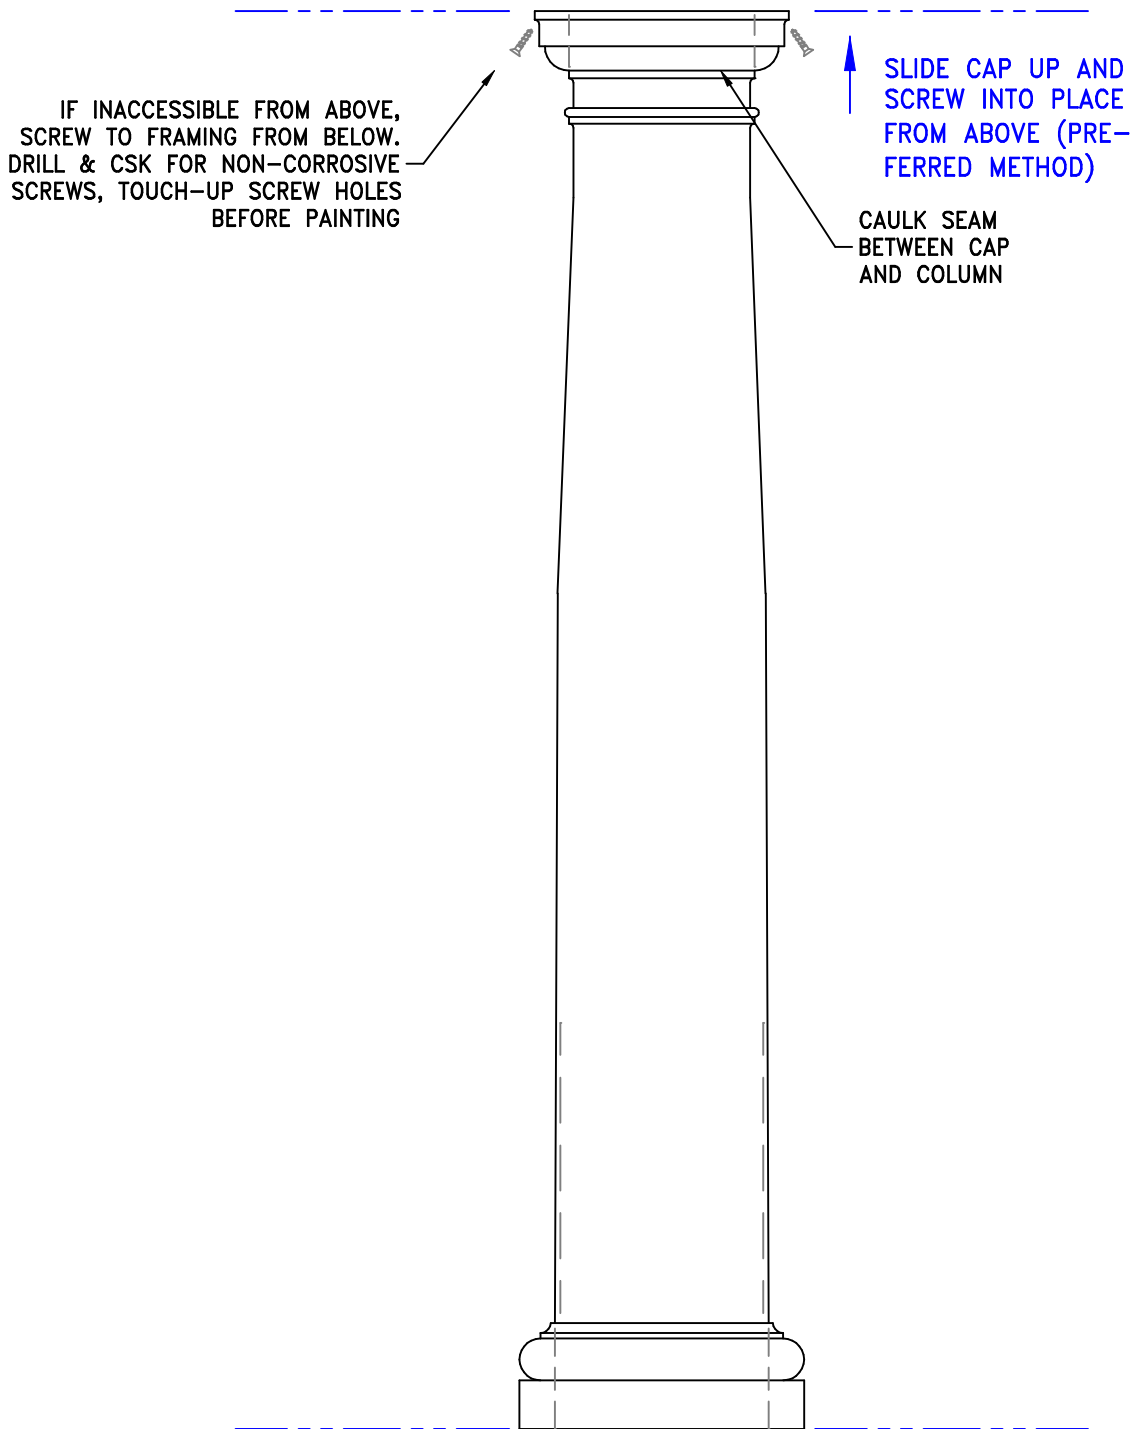

FIGURE 10
13. AFTER SQUARING, SCREW CAP INTO PLACE FROM ABOVE (PREFERRED INSTALLATION METHOD) USING NON-CORROSIVE SCREWS. WHERE TOP OF COLUMN IS INACCESSIBLE, DRILL AND COUNTERSINK FOR THE SCREW HEADS, FILL HOLES AFTERWARDS AND CAULK THE SEAM BETWEEN CAP AND COLUMN PRIOR TO PAINTING (FIG.10). USE SANDED, COLORED CAULK FOR TOUCH-UP ON MARBLED COLUMNS